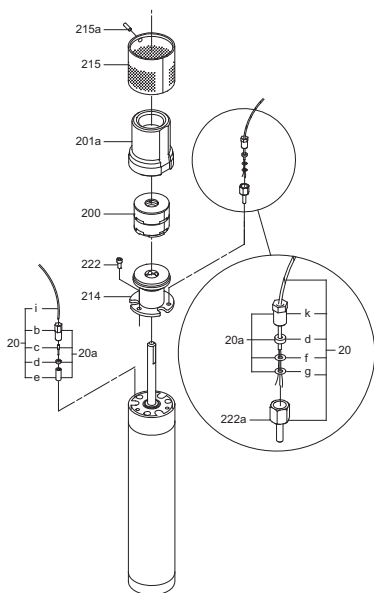

Fig. 1
Slacken and remove the screw, pos. 215a, together with the strainer, pos. 215. See fig. 1.
Pull positions 20b, 20d and 20e on the three leads (phases) of the motor cable. On the earth lead (yellow/green), the order is pos. 20k, 20d and 20f. See fig. 1.
Bend the stripped end of the earth lead. See fig. 1.